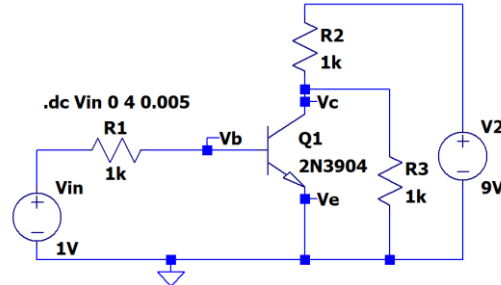

Figure A-3.
- Add the resistor R3 as shown in Figure A-3 to your circuit.
- For the circuit in Figure A-3, change the DC SWEEP for V_{in} to range from 0.4V to 0.9V.